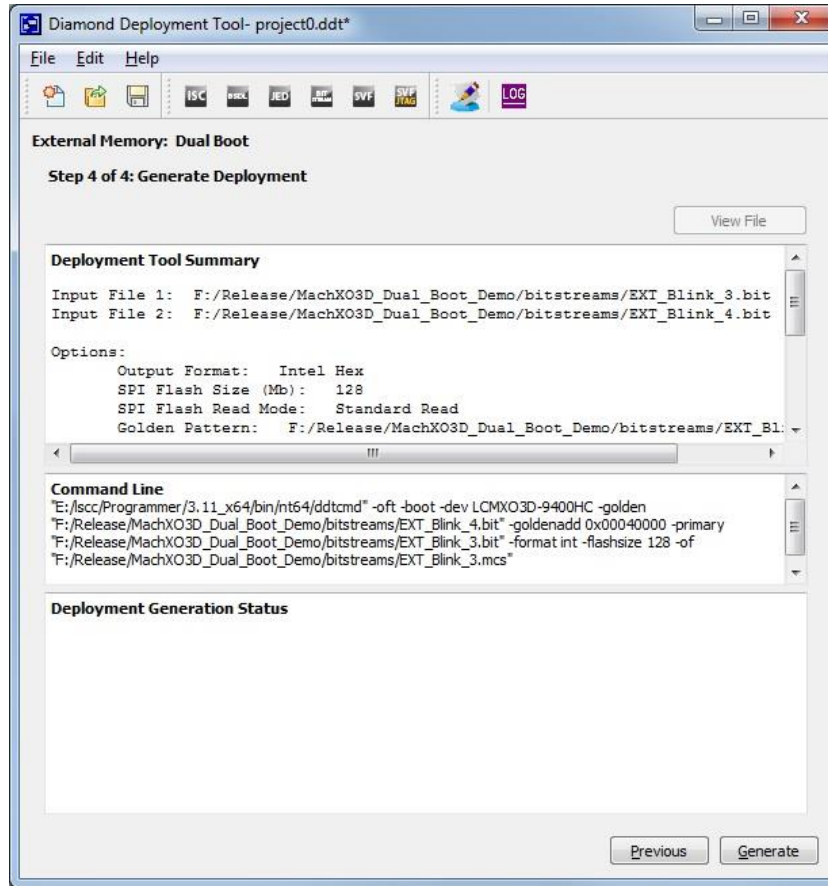

Figure 4.10. Generate Deployment
- Now you can review the information displayed in the **Deployment Tool Summary** area (as shown in Figure 4.10). Click the **Generate** button.